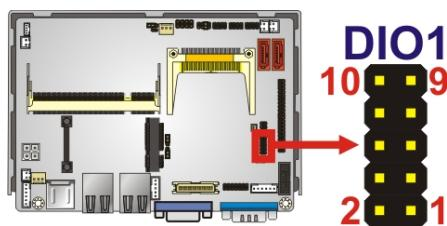

Figure 3-6: Digital I/O Connector Location
**CN Label:** DIO1**CN Type:** 10-pin header**CN Location:** See **Figure 3-6****CN Pinouts:** See **Table 3-7**